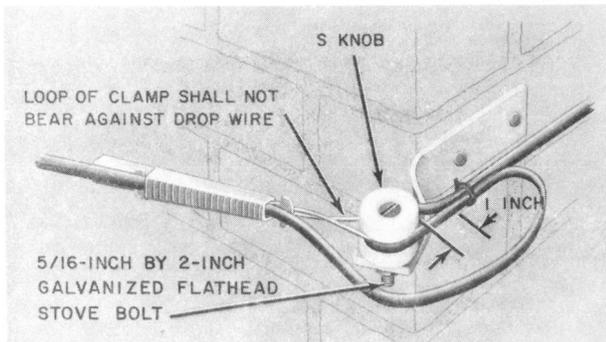

Fig. 2—Corner Bracket Equipped With S Knob
**1.04** An S or T knob may be used with the corner bracket for attaching drop wires when porcelain insulated building attachments are required (Fig. 2).